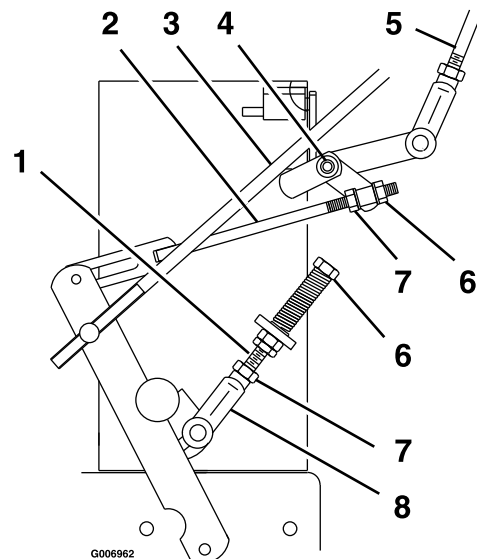

Figure 17
4. Loosen the nut against the neutral control linkage yoke as shown in Figure 17.
- Loosen the front nut on left hydro control linkage as shown in Figure 17. Turn the rear control linkage adjusting nut counterclockwise until wheel rotates forward. Turn the rear nut of left control linkage clockwise 1/4 of a turn at a time, stopping to move the speed control forward and back to neutral, until left wheel stops rotating forward.